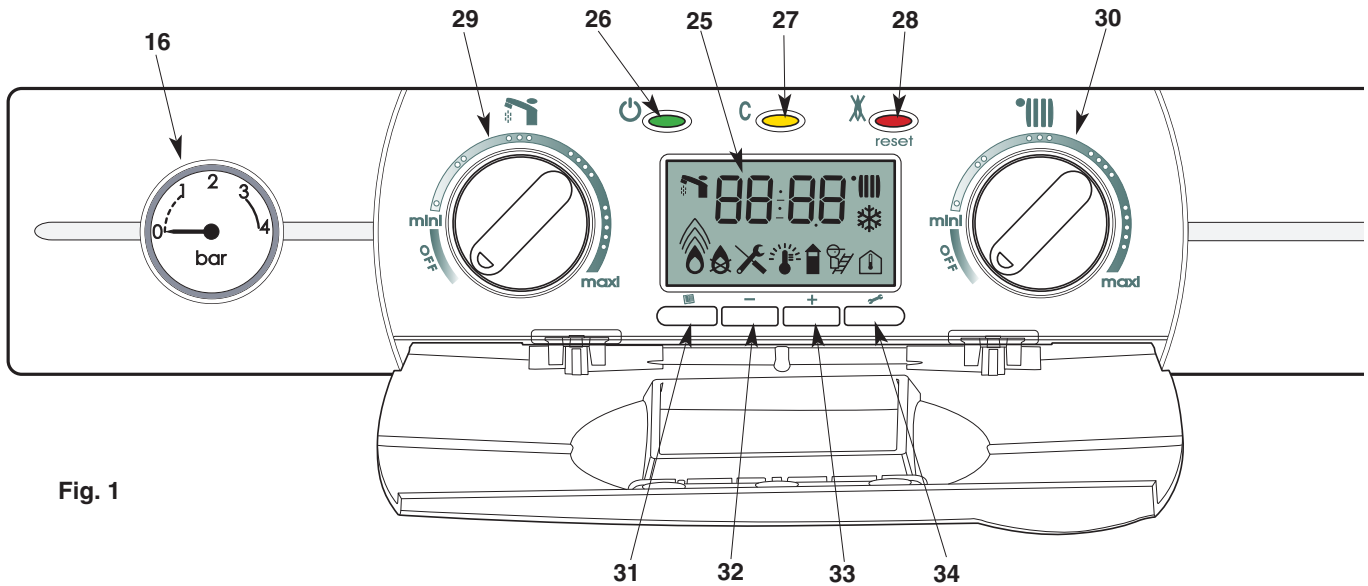

Fig. 1
Control panel (Fig. 1)
1. Check the pressure in the central heating system is above 0.7 bar and below 1.5 bar with the pressure gauge **16** (fig.1), should it be necessary to re-pressurise the system, ensure the filling loop **45** (fig. 2) is attached, open the filling taps **43** & **44**, the pressure gauge will now start to rise, once the pressure reads 1.0 bar, close the filling taps and disconnect the filling loop.